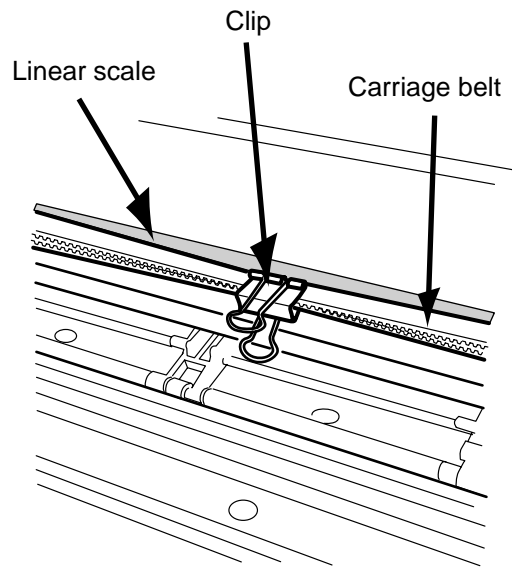

Figure 1-1001
- 4) Fix the carriage belt at the center of the platen by holding it with a clip as shown in Figure 1-1001, so as not to allow the carriage to move.